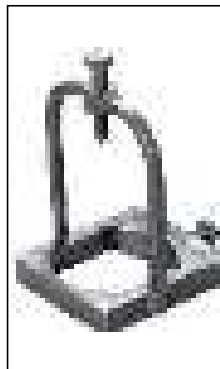

Fig. 1.23A
17. Main bearing extractor - S131 111 0 (Fig. 1.23A)